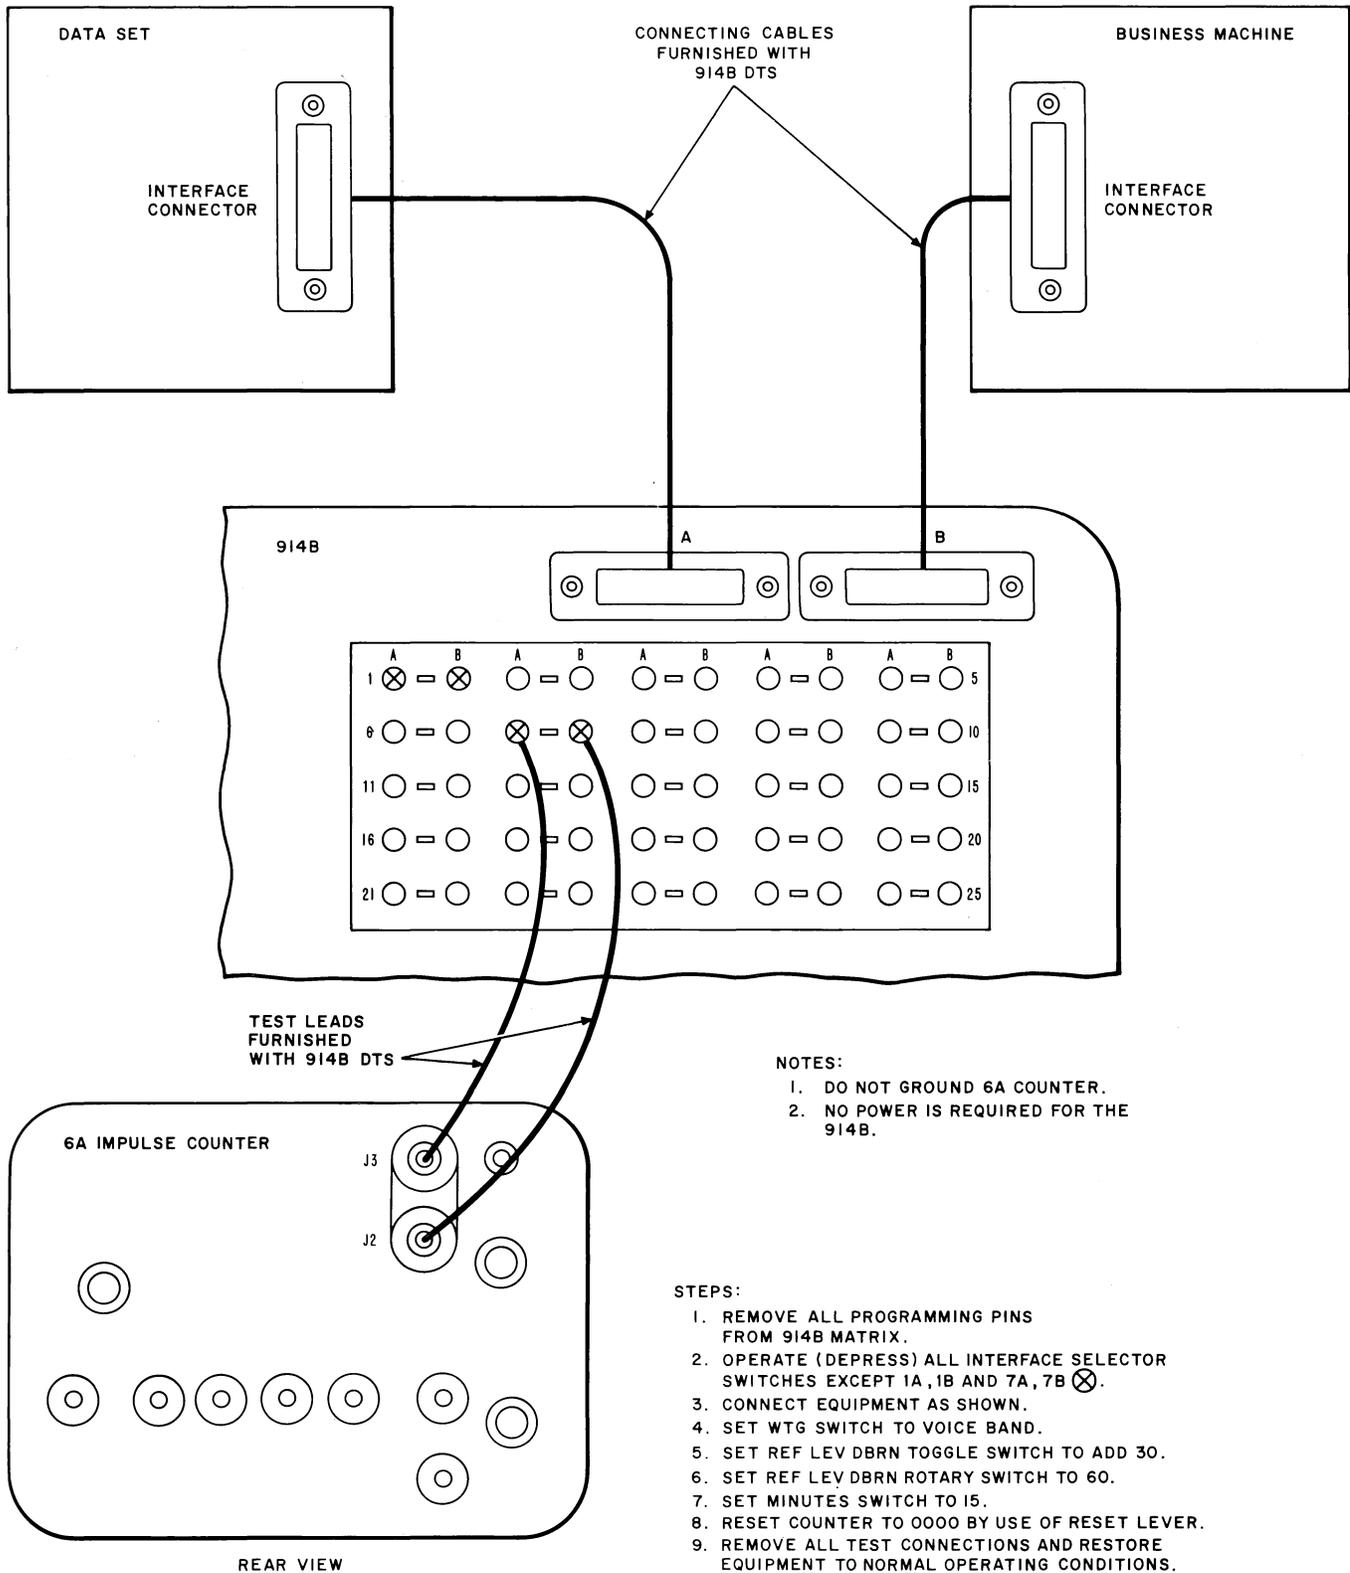
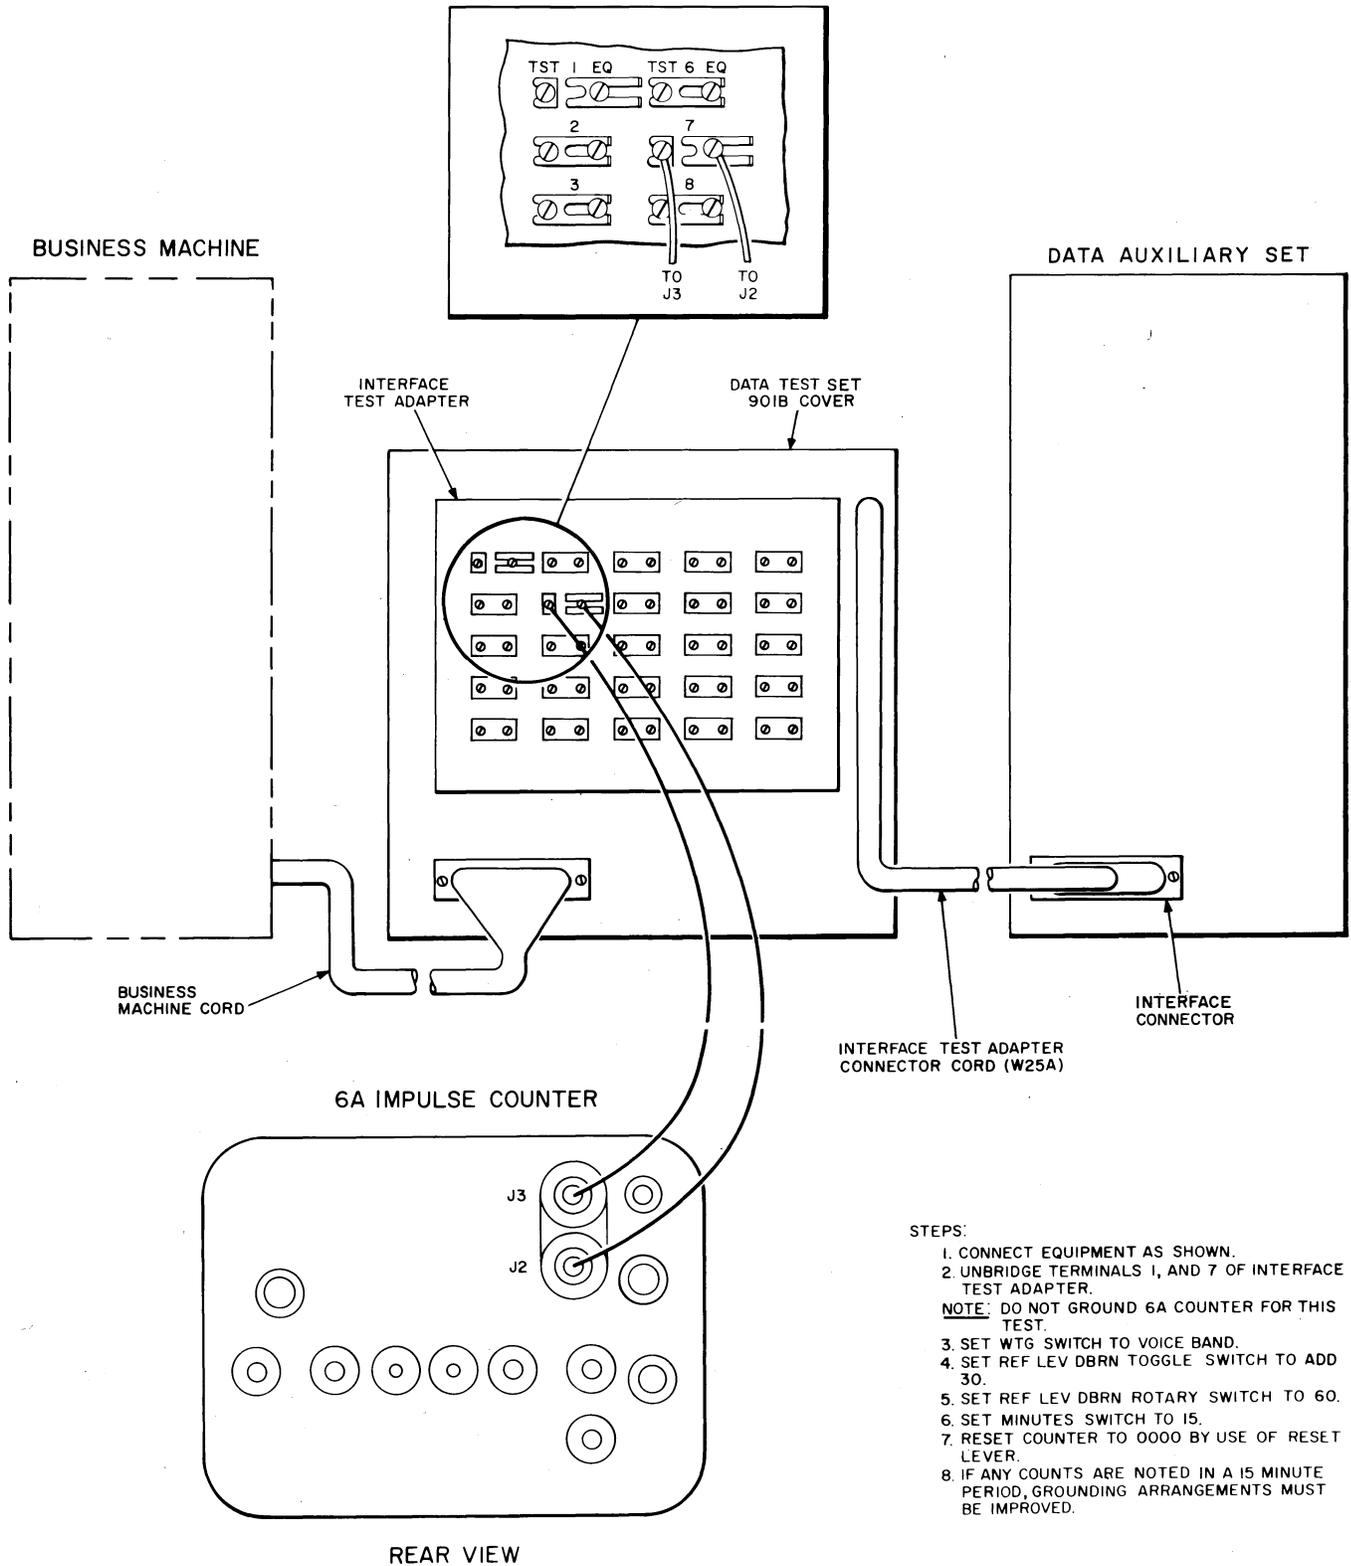

Fig. 2—Power Ground Noise Test Using 6A Impulse Counter and 914B Data Test Set
Fig. 3—Power Ground Noise Test Using 6A Impulse Counter and 901B Data Test Set Cover
1.06 If a noise condition exists and grounding problems are a possibility, an impulse noise test using a 901 Data Test Set or a 914B Data Test Set should be made as shown in Fig. 2 and Fig. 3.